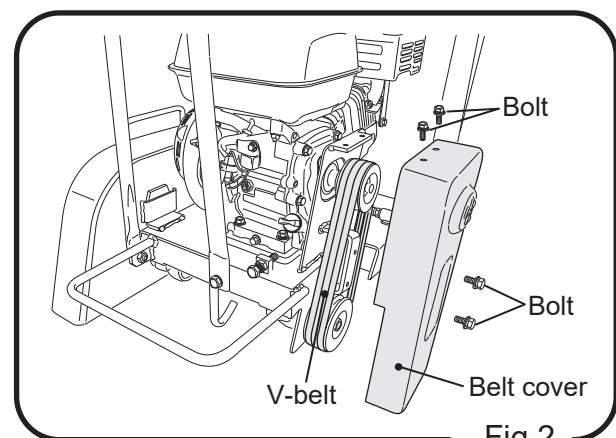

Fig.2
- A With 4 bolts removed, take off belt cover. (Fig.2)